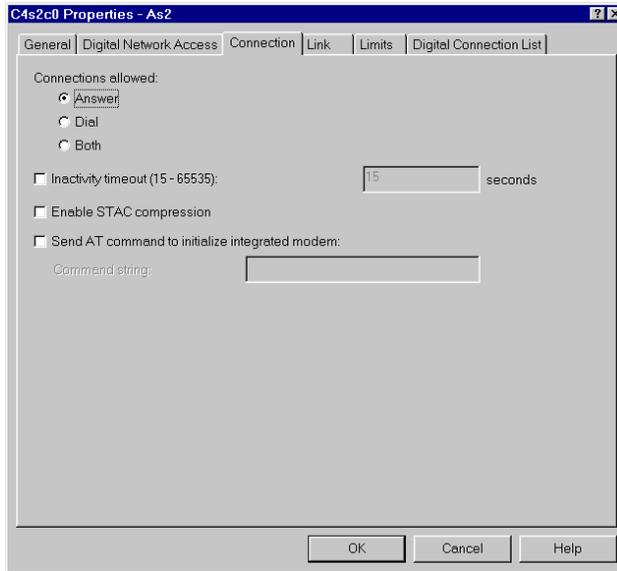

Figure 106. Verifying the Connection properties of the line
5. Click the **Connection** tab (Figure 106 on page 120).